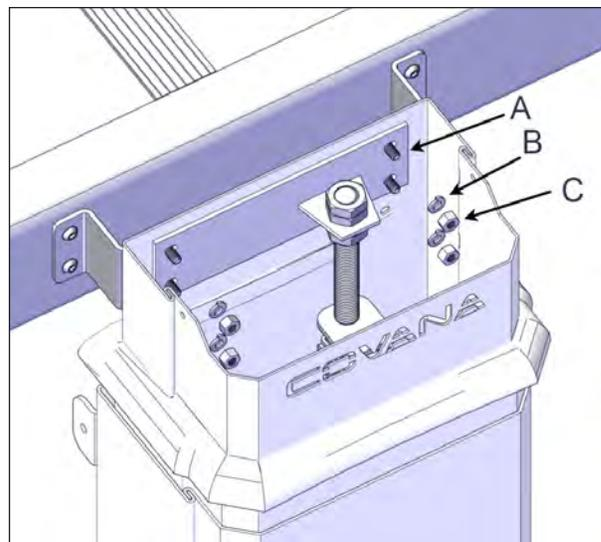

FIGURE 98: SLEEVE INSTALLATION
- Slide the sleeves over the top of the jacks and fasten them using the 1/4" x 3/4" carriage bolts at the top with 1/4" lock washers and 1/4" nuts. Use a 7/16" (11 mm) socket and spanner see Figure 98.